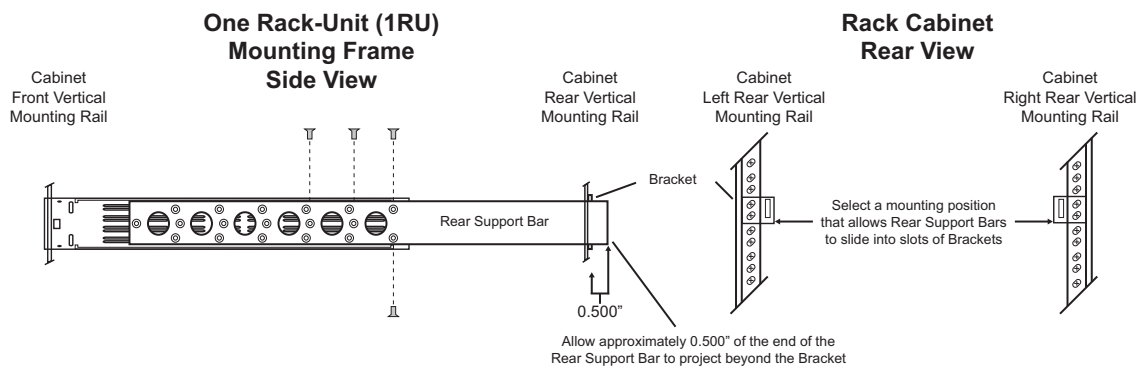

Figure 11 Installing the Support Brackets
In some cases, (mobile trucks, etc.) it may be desirable to also support the rear of the SRG-4500. The rear support bars can be attached to the SRG-4500 in six possible positions. (**Figure 11**)
2. Using four screws per bracket, as shown in **Figure 11**, attach both bars.